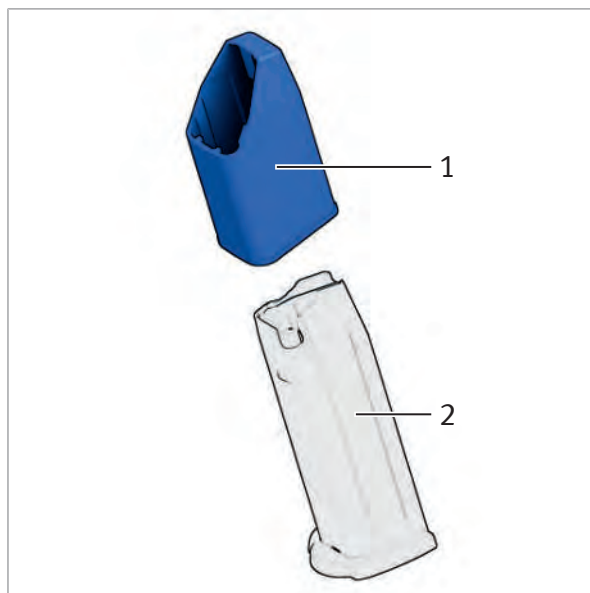

Fig. 46: Place loading aid on magazine
1. Place loading aid on magazine (Fig. 46).